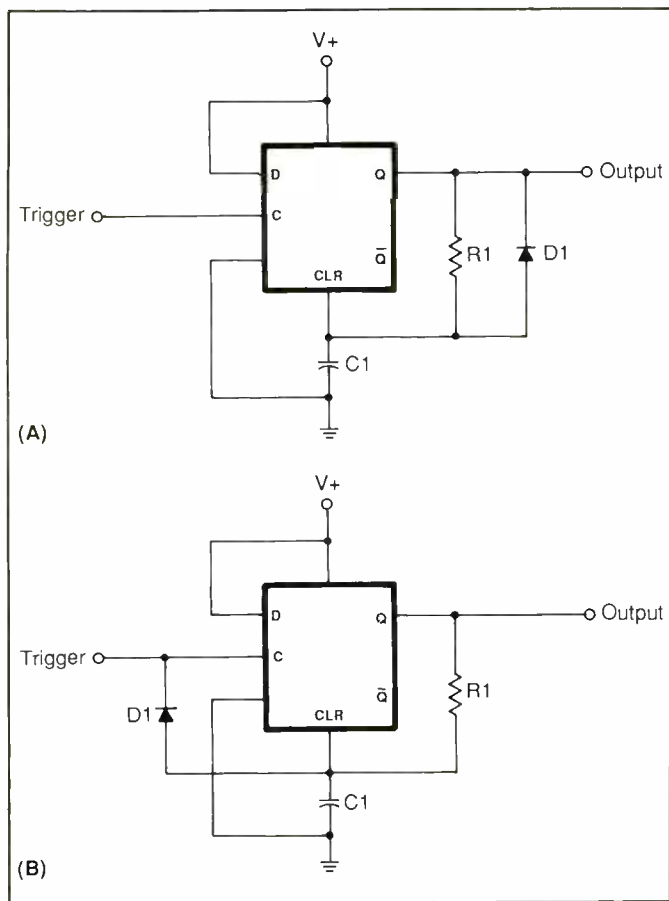

Fig. 5. Two versions of monostable multivibrator built around 4013 CMOS D-type flip-flop: (A) non-retriggerable and (B) retriggerable.
Two versions of the monostable multivibrator built around the 4013 D-type flip-flop are shown in Fig. 5. The rules of operation for the D-type flip-flop are as follows:
tor circuit shown schematically in Fig. 5(A) has its D input permanently tied to logic high by nature of it being connected to the V+ rail. When a trigger pulse forces clock input C high, the high on the D input is transferred to the Q output, making this output also high.
Shown in Fig. 5(B) is the retrigger-
able version of the Fig. 5(A) circuit. In this case, the discharge diode is connected from the CLR input of the D-type flip-flop to the trigger input. Retriggering occurs by bringing the trigger input to logic high and then back to logic low.